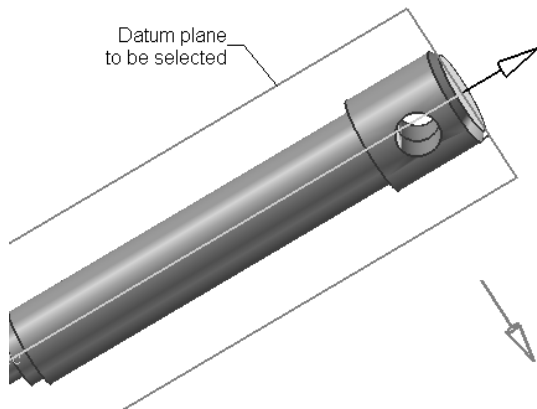
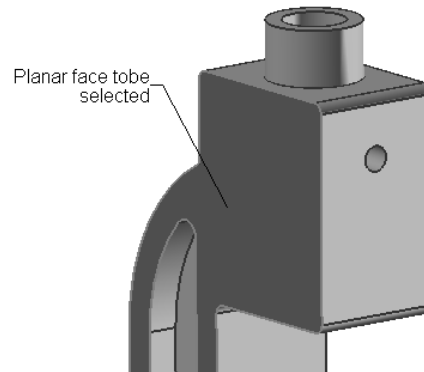

**Figure 8-43** Planar face of the Screw to be selected
**Figure 8-44** Planar face of the Base to be selected
8. Select the planar face of the Screw, as shown in Figure 8-43. Next, select the planar face of the Base component, as shown in Figure 8-44.